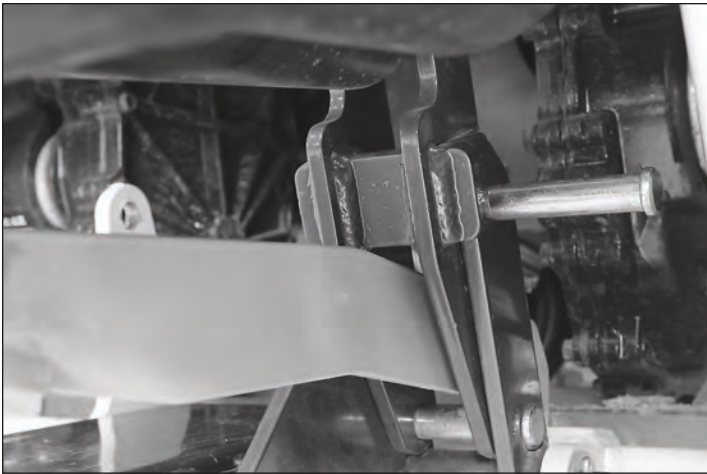

Figure 3.2
- **Non-Floating:** Insert the clevis pin (figure 3.2) through the rear actuator mount and secure with the bowtie cotter pin. Install the clevis pin to allow for downward pressure on the implement hitch.